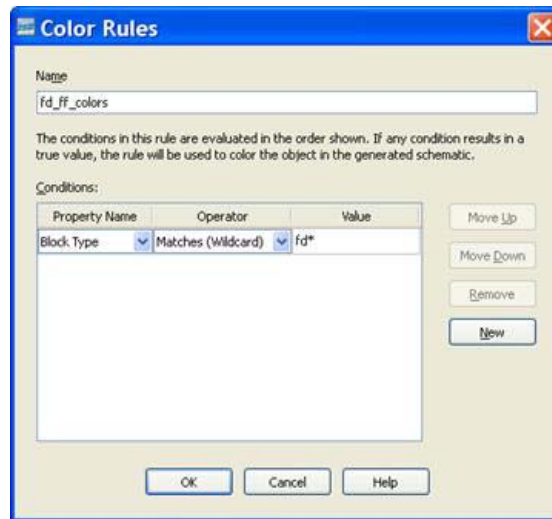

Figure 7-9: Color Rules Dialog Box
5. Select **Block Type** for Property Name, select **Matches (Wildcard)** as Operator, type **fd*** as a value as shown in Figure 7-9, and click **OK**.